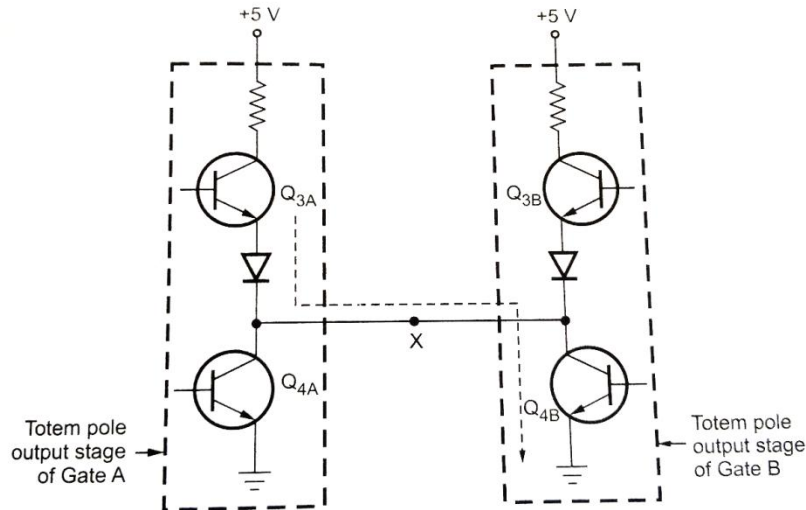

Figure 1.14: Totem-pole outputs tied together can produce harmful current
- One problem with totem pole output is that two outputs cannot be tied together. The figure 1.14 Shows this problem.